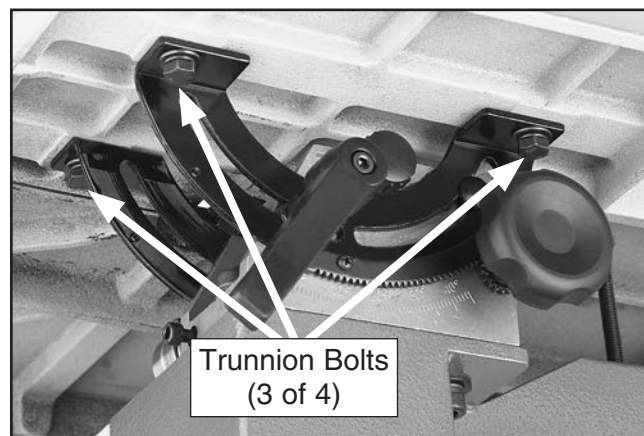

Figure 56. Location of trunnion bolts.
5. Loosen trunnion bolts that secure table (see **Figure 56**).